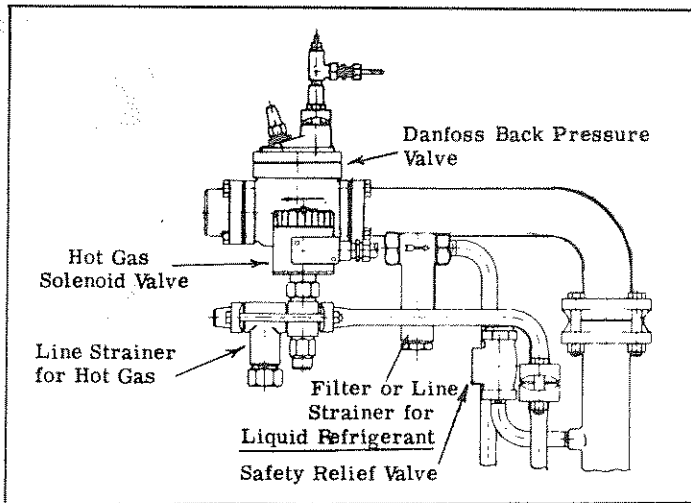

Fig. 22a
1. Refer to Figures 22a and 22b.